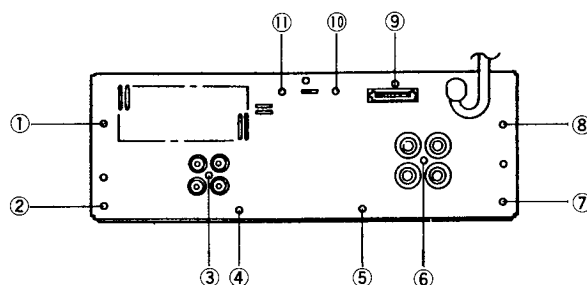

Fig. 3
1. Remove screws ① to ⑪, and then remove the rear panel in Fig. 3
1. Remove the rear panel in Fig. 3 (Refer to step ③)
2. Remove connector ①, Remove Switch rod ② from speaker selector switch
3. Remove screws ③ to ⑥, and then remove the pcb-2 ⑦ with the power trans